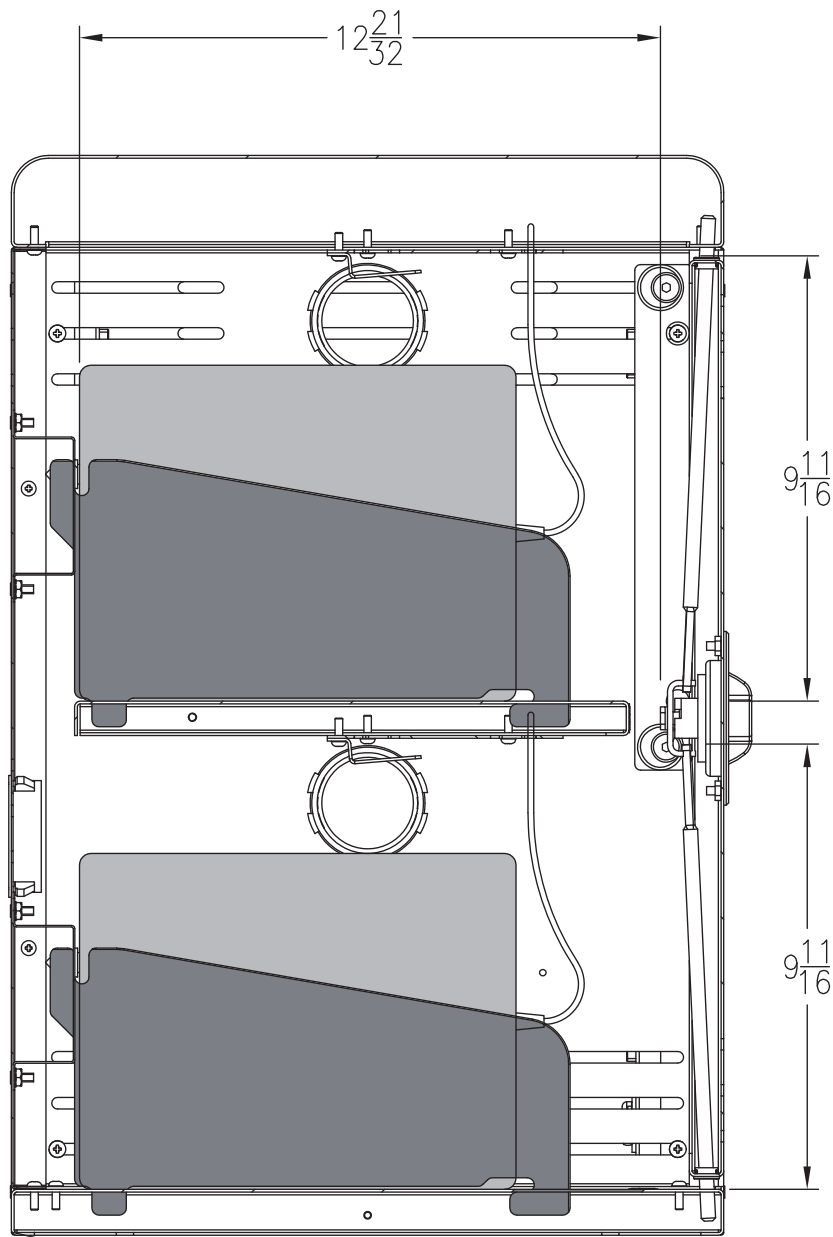

Figure 3C
2. Set tablets into slots. **Figure 3C.**